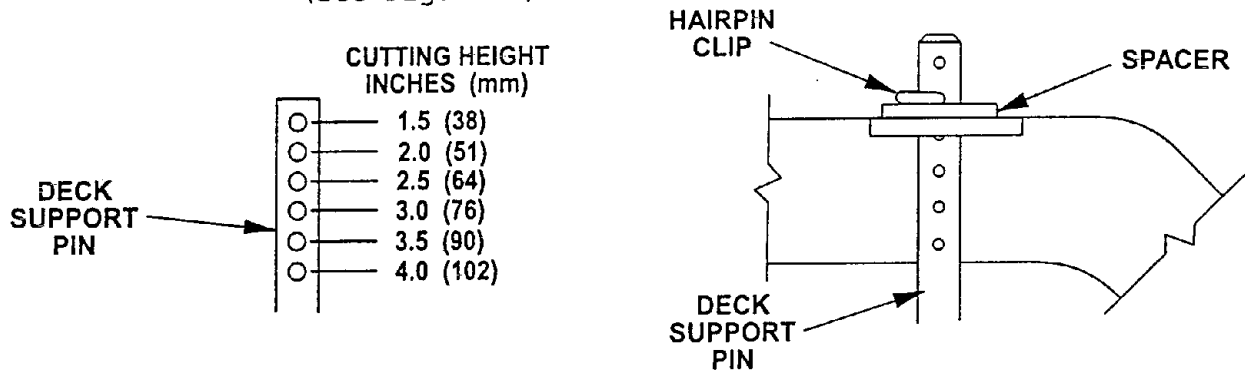

FIG. 2
- Raise deck and insert hairpin clip into the correct support pin holes to give the desired cutting height (See Figure 2).